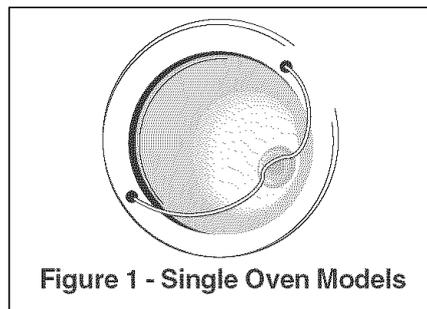

Figure 1 - Single Oven Models
4. Replace glass shield in socket and snap wire holder into place (some models, Figure 1).